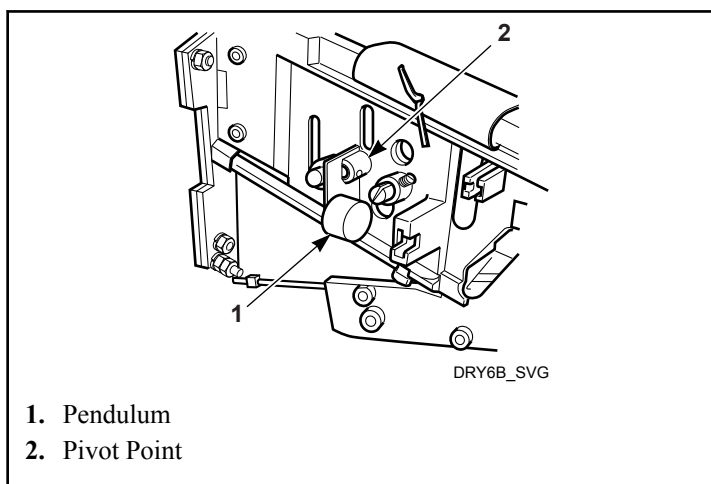

Figure 27
9. Check coin return pendulum to verify it swings freely. If pendulum does not swing freely, spray pendulum pivot point with Teflon based lubricant and move pendulum back and forth two to three times. An additional application of Teflon based lubricant may be necessary to ensure that pendulum swings freely. Refer to *Figure 27*.